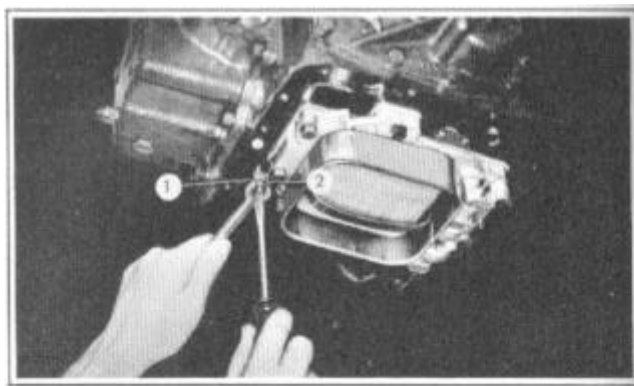

FIGURE 48
- B. Loosen the lock nut (2), Figure 48, on the parking brake actuating rod (1).